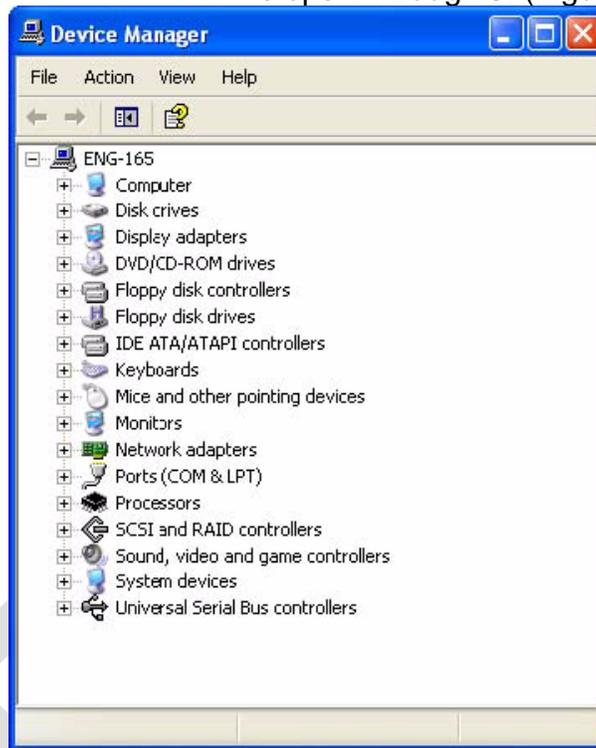

Figure 8-4 Device Manager
1. Access the Device Manager as described in steps 1 through 3. (Figure 8-4).